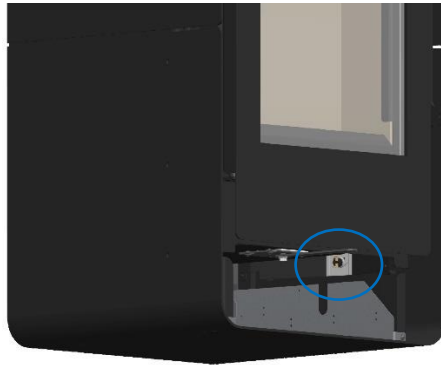

Figure 50 - Fixing the ventilation kit thermostat
* Attach the vent kit thermostat to the side of the equipment (Figure 50);